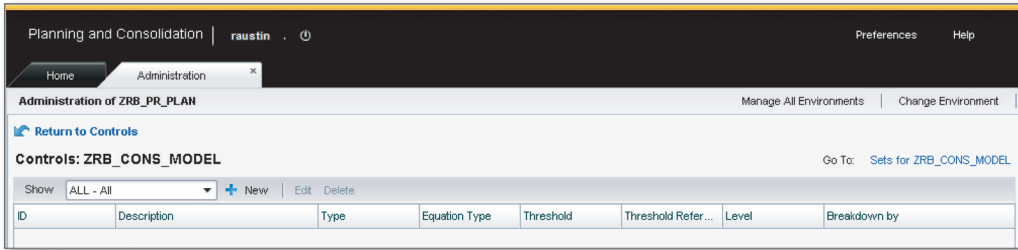

Figure 9.25 Configuring and Running Controls —Part D
- You will see the control definition interface with the list of controls defined for the model. To create a new control, click on the **NEW** menu option (Figure 9.25).